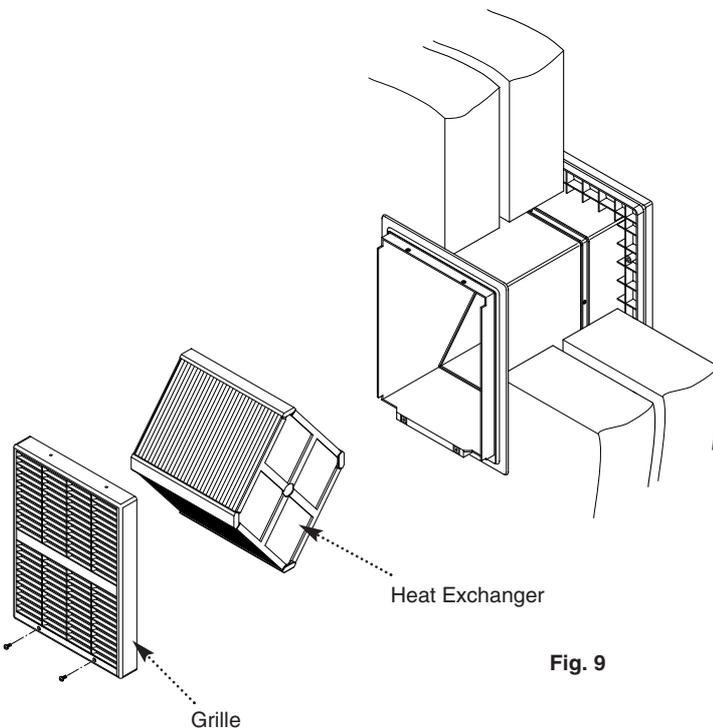

Fig. 9
6. Slide the heat exchanger into the unit (Fig. 9).
7. Locate the grille on to the front of the unit and secure with the two screws provided (Fig. 9).